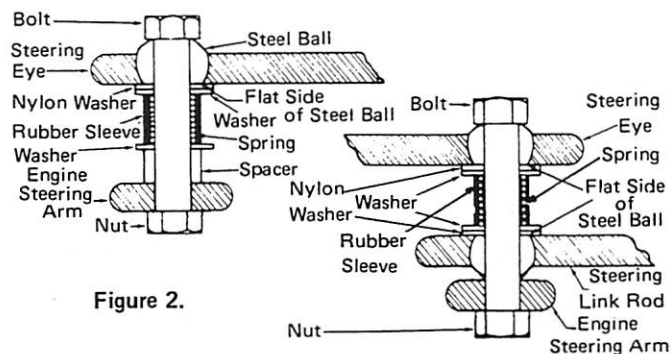

Figure 2.
*NOTE: If kit is disassembled for any reason, reassemble as shown in Figure 2.*